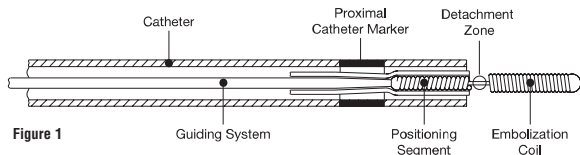

Figure 1
8. Continue to advance the Nexus™ Detachable Coil until the positioning coil of the guiding system is just distal of the proximal marker of the microcatheter (See Figure 1). Tighten RHV to prevent movement of the guiding system.